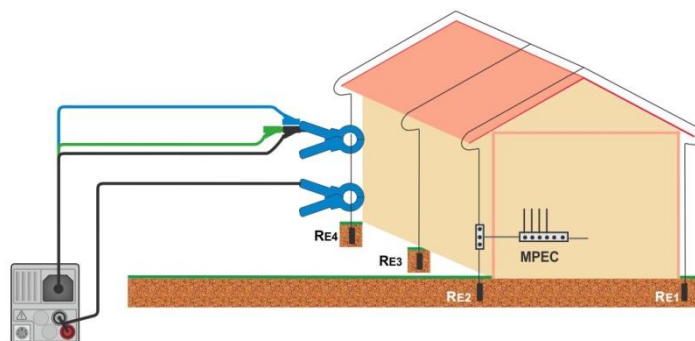

Figure 7.53: Contactless earthing resistance measurement
- › Clamp on object under test, see **Figure 7.53**.